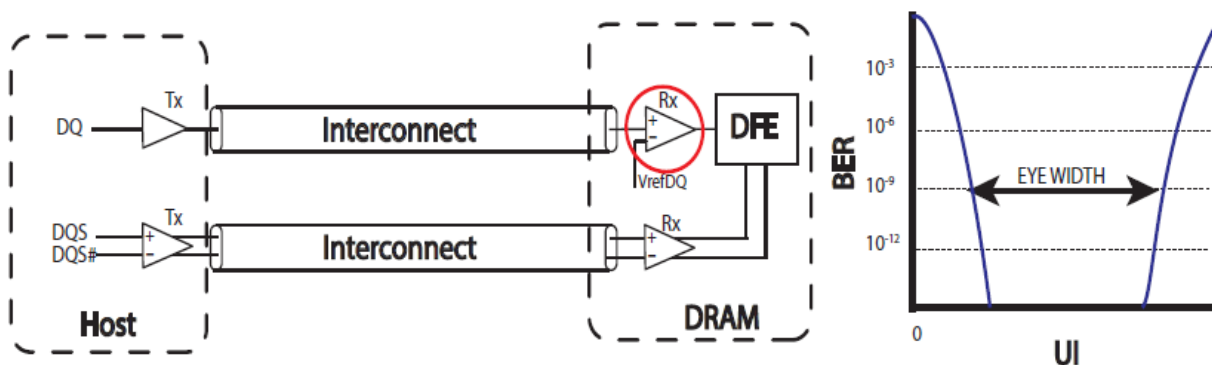

Figure 15. Example of DDR5 Memory Interconnect
1)  $V_{diffpk-pk}$  defined in Figure 15